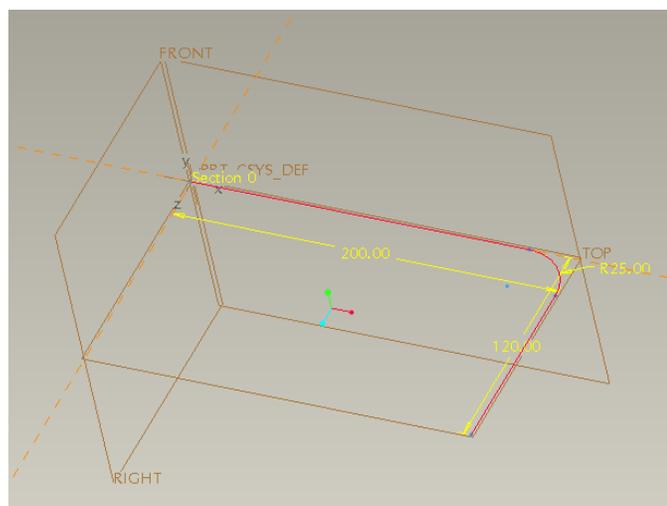

Figure 2 Curve
- a) Create curve on the TOP datum plane as shown in Figure 2